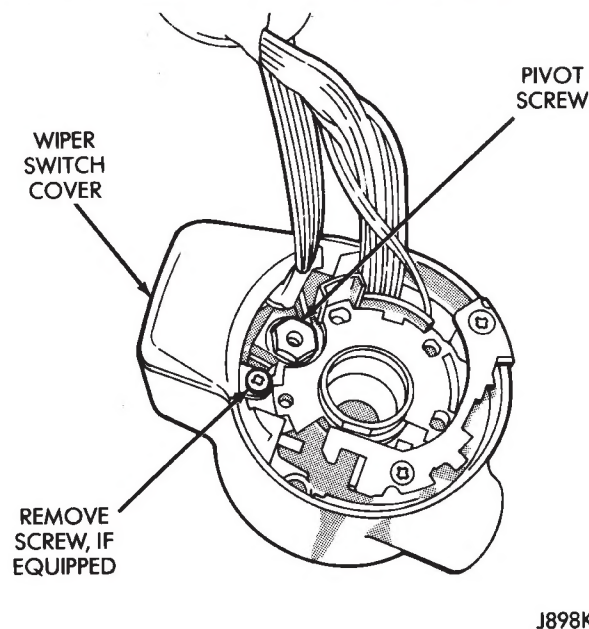

Fig. 27 Remove Pivot Screw
(33) Remove turn/hazard/wiper lever by pulling it straight out of column.
(34) Remove wiper switch cover from back of housing and shroud assembly (Fig. 27). If equipped with column shift, remove screw holding the cover on.